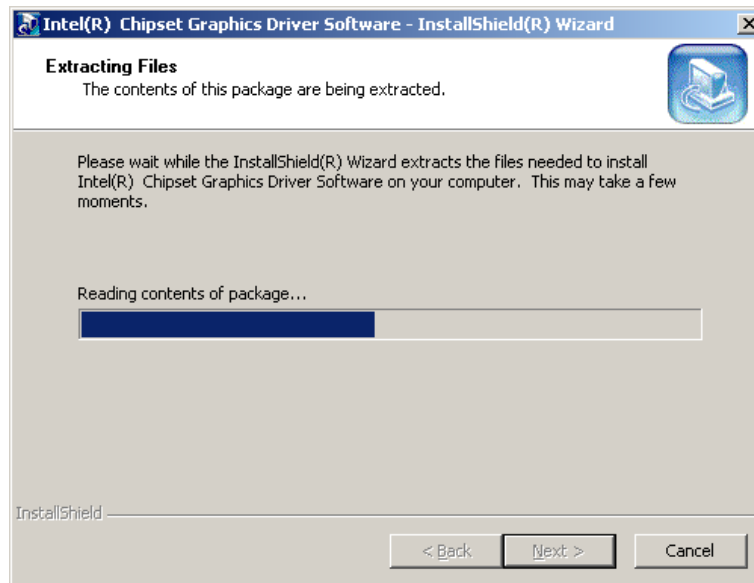

Figure 7-11: InstallShield Wizard Extracting Files
Step 8: Read the Readme file information and click **NEXT** to begin extracting files (Figure 7-11).